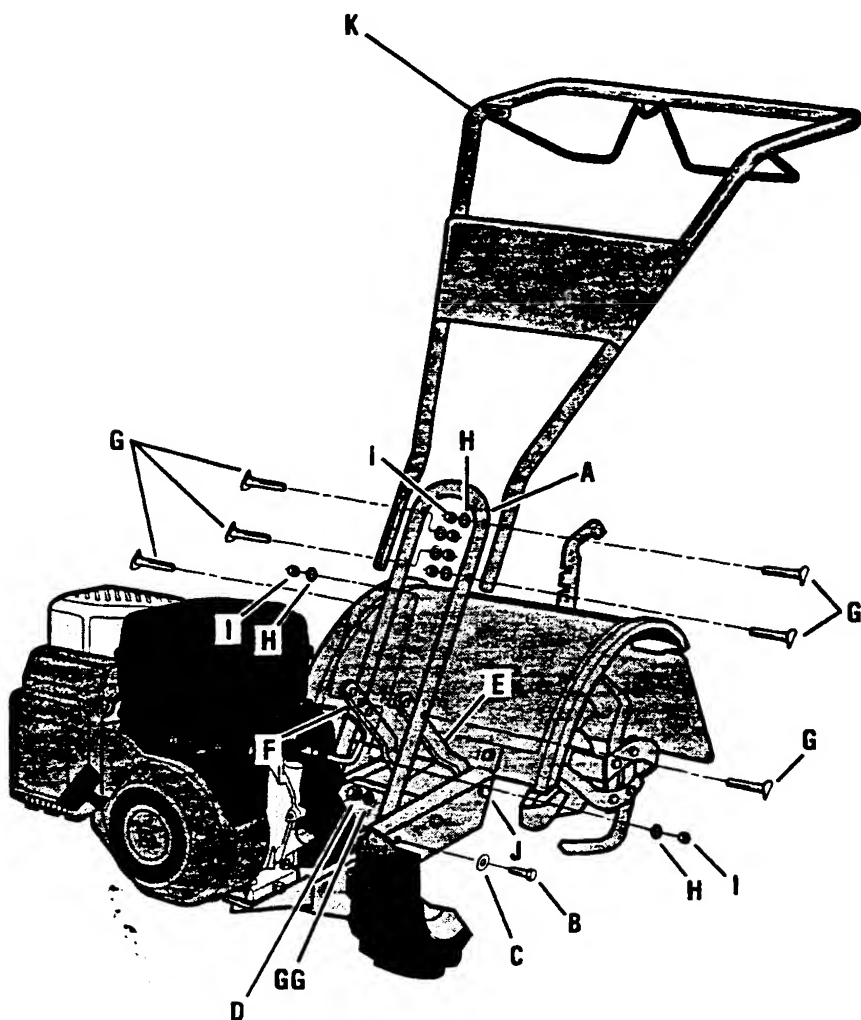

Fig. 2-2: Attach handlebar (5.5HP Model shown).
1	Handlebar Support (see A, Fig. 2-2)
1	Handlebar Assembly (see K, Fig. 2-2)
1. Loosely attach the legs of the handlebar support (A, Fig. 2-2) to the inner sides of the tiller frame using two 3/8"-16 x 3/4" hex hd. screws (B), 3/8" flat washers (C), 3/8" lock washers (GG) and 3/8"-16 hex locknuts (D).
2. There are three height adjustment holes in the two handlebar support brackets (E and F, Fig. 2-2). Use a setting that will position the handlebars at approximately waist level when the tines are 3'-4" into the soil. Loosely attach the support brackets to the handlebar support (A) using two 5/16"-18 x 1-1/2" screws (G), 5/16" split lockwashers (H) and 5/16"-18 hex nuts (I). NOTE: If a support bracket will not move, loosen attaching screw (J) and nut.
3. Attach the handlebar assembly (K) to the handlebar support (A) using four 5/16"-18 x 1-1/2" screws (G), 5/16" split lockwashers (H) and 5/16"-18 hex nuts (I). Tighten the four screws securely.